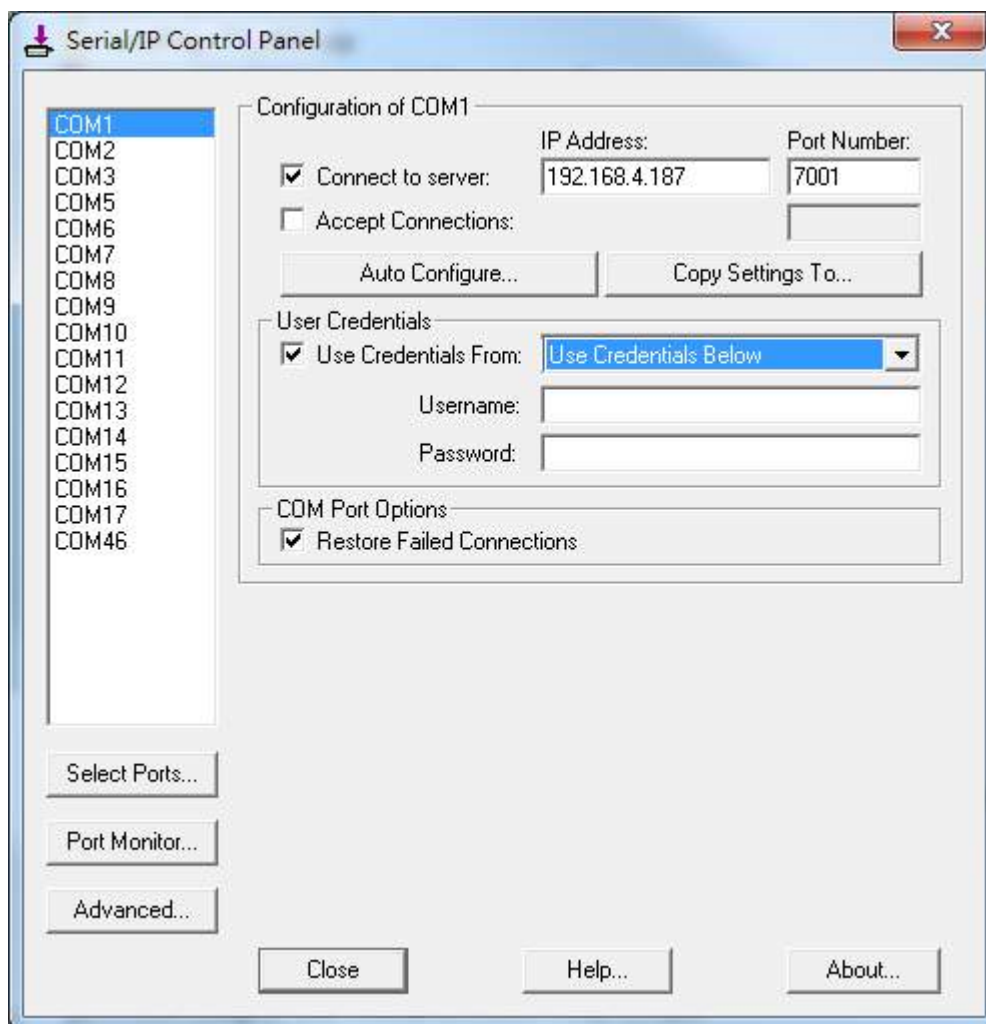
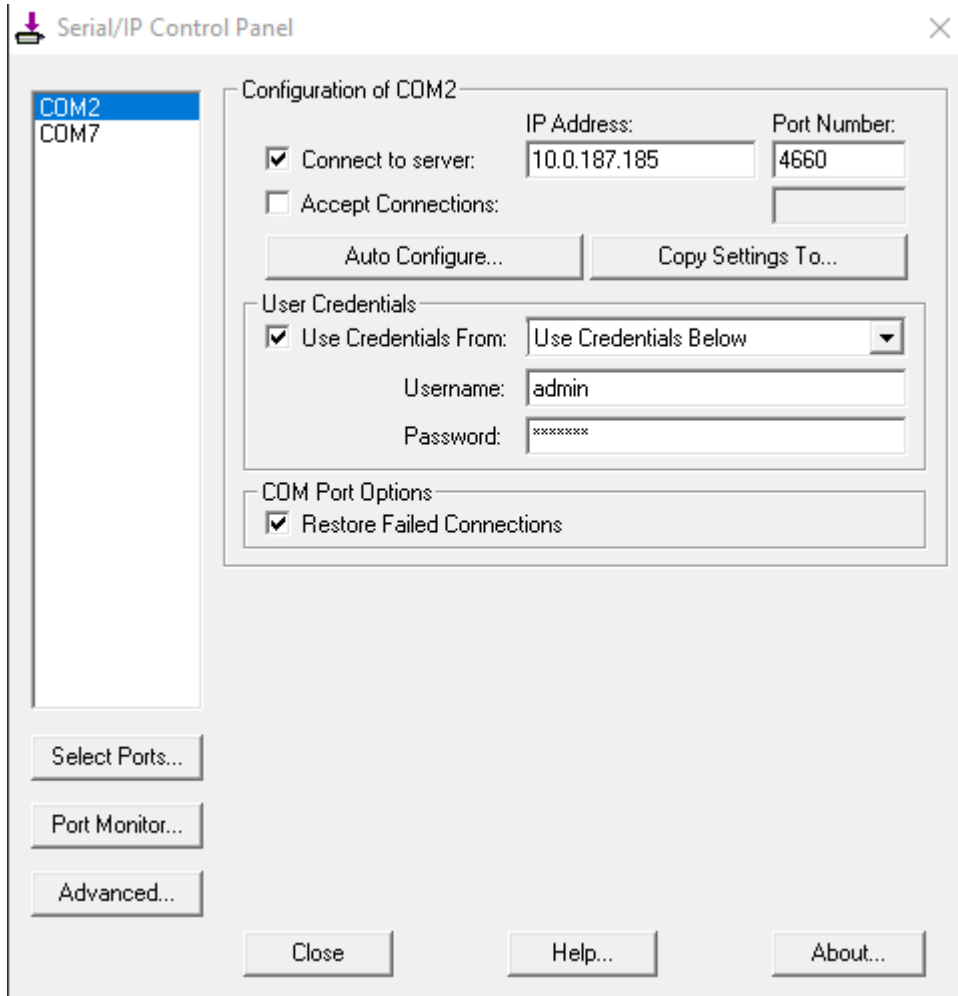

Figure 6.8 Available Options for Use Credential From in Serial/IP Control Panel Version 4.9.10
Figure 6.9 Configuring Virtual COM 2 Port as TCP Client
1. If the serial device server (i.e. PS4000/8000/16000) is running in **TCP Server Link Mode** (recommended), the **Serial/IP** utility on the host computer should be configured as the TCP client connecting to the serial device server. Enable **Connect to Server** option (by checking the box in front of it as shown in Figure 6.9) and enter the IP Address of the serial device server with the specified **Port Number**. The **Port Number** here is the **Local Listening Port** for the serial device server which is specified in the **Local Port** field of Figure 5.11.
3. Under **User Credentials** box, you can enable **Use Credentials From:** option by checking the box in front of it then select options from the drop-down list. The available sources of credentials are: **Prompt on COM Port Open**, **Prompt at Login**, and **Use Credentials Below** as shown in Figure 6.8. If you select **Use Credentials Below** option as shown in Figure 6.9, please specify the **Username** and the **Password** in their corresponding text boxes.
6. To transfer the settings between Virtual COM ports, click on the **Copy Settings To** button as shown in Figure 6.9.